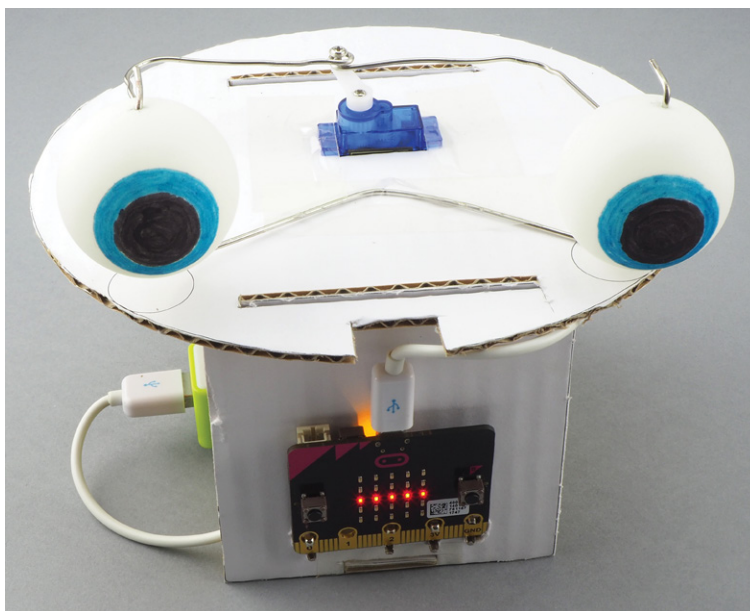

Figure 6-5: The animatronic head
But, referring to Figure 6-5 again, we need to convert the pulse length in milliseconds to a duty value between 0 and 1023 because the `set_servo_angle` function expects a value in that range.
This animatronic head, shown in Figure 6-5, makes a great project for a Halloween display. A servomotor moves a pair of ping-pong ball eyes from left to right, and it uses the micro:bit's display as a mouth. When the head talks, the lights simulate a simple animation of lips moving.
15. With everything connected together, attach the top piece of cardboard to the rest of the chassis. The two circles marking the position of the eyes on the top piece should face the micro:bit end of the chassis (refer to Figure 6-5).